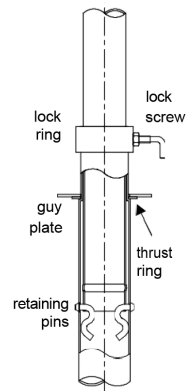

Fig 6 Joint Detail
6. Extend top section of mast until stop is reached and tighten lock screw to hold it there. Extend next section of mast 80-90mm until the holes for the retaining pins are visible, clamp with lock screw, and insert the two retaining pins. Release lock screw holding the top section and allow it to drop down onto the retaining pins, then turn it until the notches engage on the pins (fig 6). Retighten the lock screw. Continue as above until mast is fully extended.